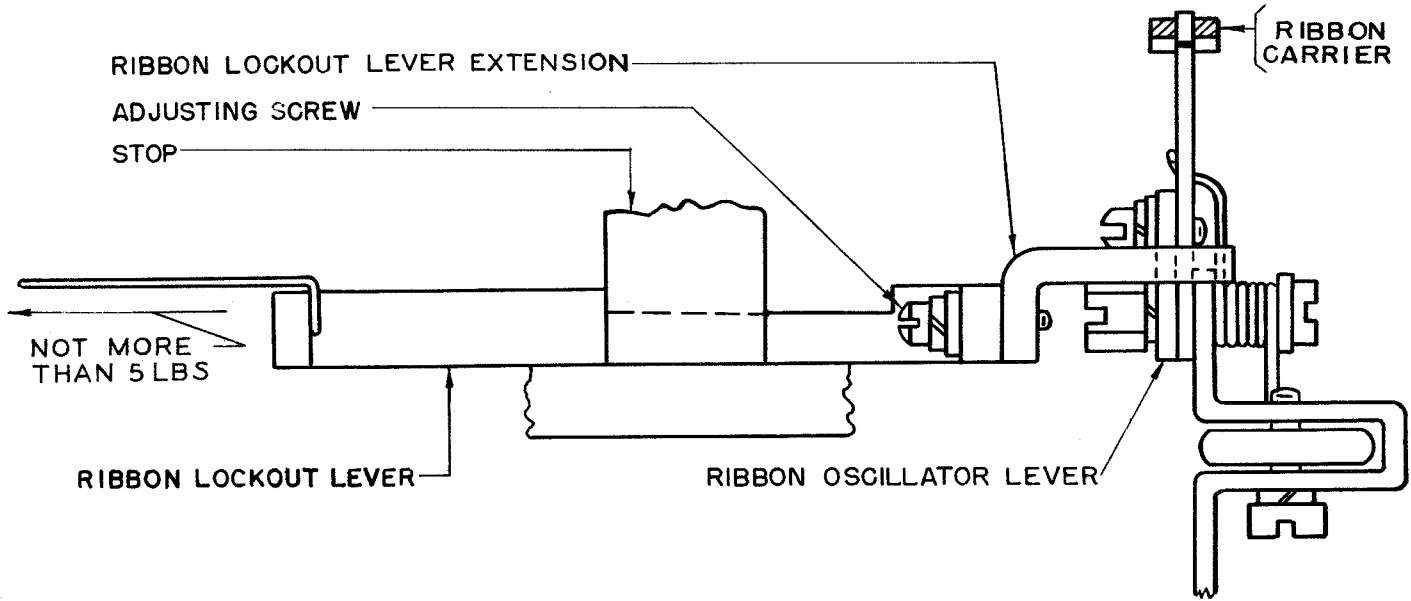

Figure 61
2.137 Ribbon-lockout Lever should require a pull of not more than 5 pounds to move the lever to its unoperated position. See Figure 61.